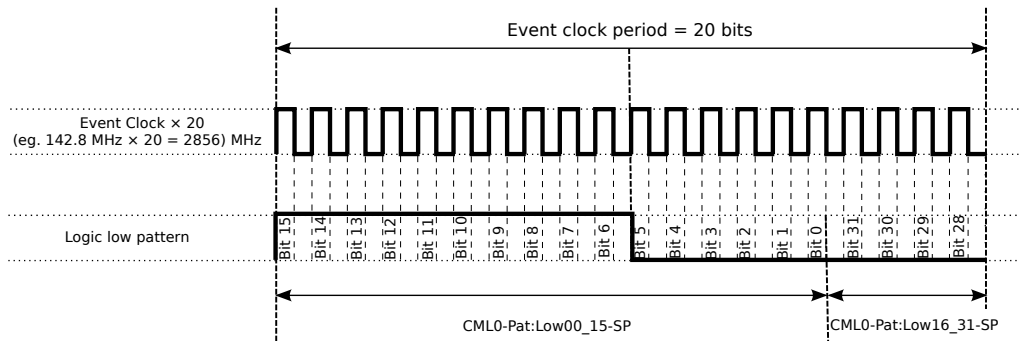

Figure 4: Generate the event clock
Signals with frequency greater or equal to the frequency of the event clock can only be generated using the CML outputs. More about the operation of the CML outputs and their modes is available in the EVR manual [2]. Note, that not all event receiver form factors have CML outputs. The EVR-VME-230RF form factor has outputs FrontOut4 (CML0), FrontOut5 (CML1) and FrontOut6 (CML2) capable of CML output. This tutorial demonstrates how to configure CML0 output (corresponds to FrontOut4 output) to generate a clock signal, that has the same phase and frequency as the event clock. To achieve this, the FrontOut4 output source is set to **logic low** and the CML outputs are enabled. This causes the logic low pattern of the CML pulse mode to be continuously outputted. The configurable pattern, as seen in Figure 4, is 20 bits long and is sent out with a bit rate of 20 times the event clock rate. It is configured to replicate the event clock phase and frequency.
- **CML0-Pat:Low00_15-SP=0xFFC0:** Set logic low pattern bits 0-15. The Figure 4 shows that the bits 15-0 must be set as follows: 1111 1111 1100 0000, which translates to 0xFFC0. Each bit represents 1/20 of the event clock period.
- **CML0-Pat:Low16_31-SP=0:** Set signal low pattern bits 16-31, as seen in Figure 4. Note, that only bits 31-28 (top 4 bits) can be used.